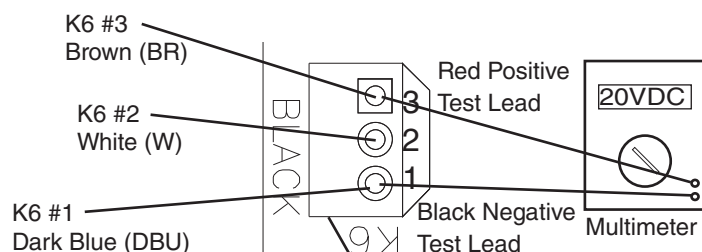

Fig. 1 • K6 Connector
- 3) **BC (infrared sensor) Power Supply (K6 connector):** CB supplies 20VDC to BC and BC green LED is on. **Diagnosis:** Check that BC green LED is on. If not, check for 20VDC between CB K6 #1 (DBU) and CB K6 #3 (BR). See Fig. 1. If 20VDC is not present, replace CB. If 20VDC is present, confirm that the yellow LED is not flashing or steady. If BC yellow LED is on or flashing, move ice away from lens. If no ice is present, clean the lens with a warm, clean damp cloth. If cleaning the lens does not work, replace BC (infrared sensor).